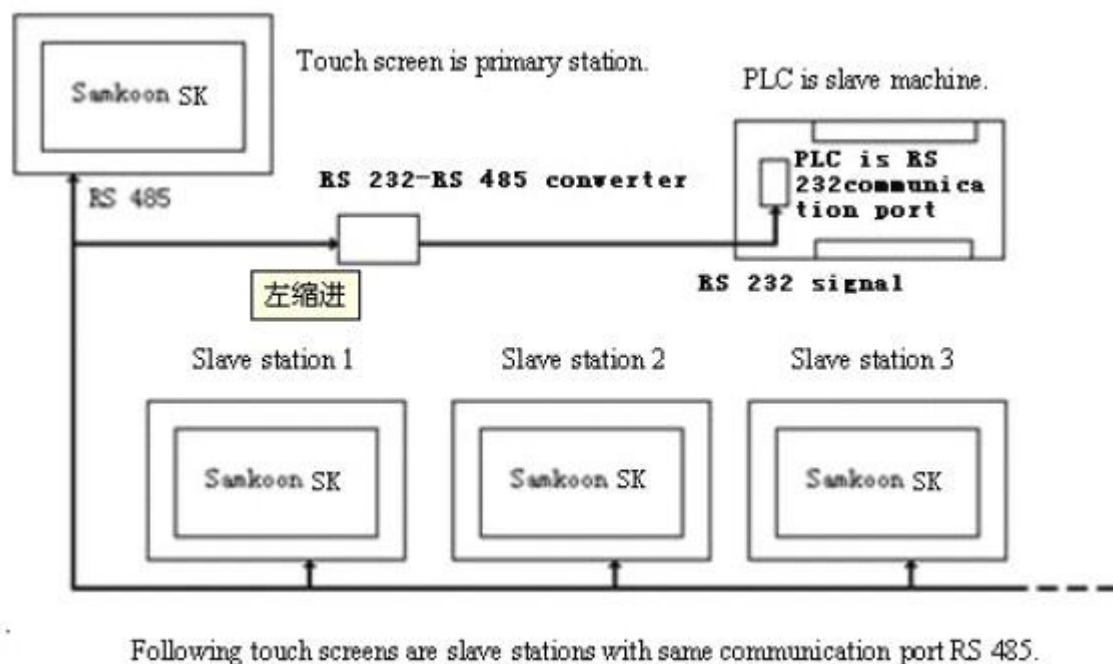

Figure 8-5 Sketch map of “One machine with multiple machines” when PLC (RS232) is Slave station
1.The communication port of the PLC connected is RS232; connection methods and system settings are as shown in Figure 8-5, 8-6 and 8-7 :